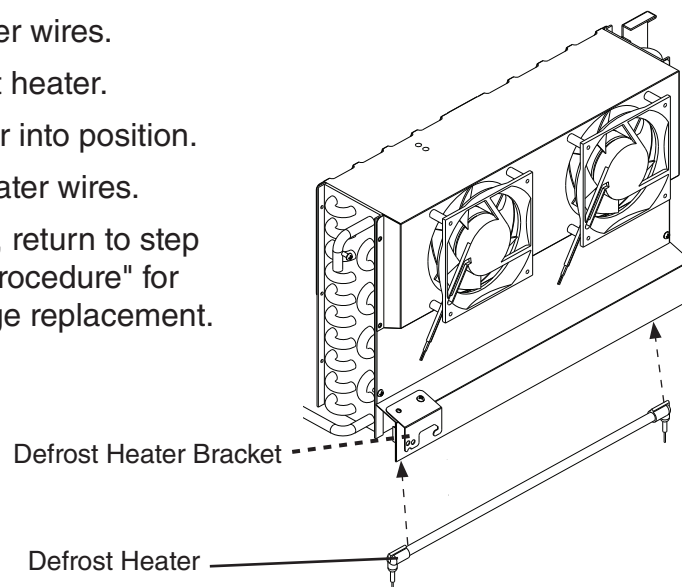

Fig. 8
- 2) Remove the defrost heater from the defrost heater bracket. See Fig. 8.